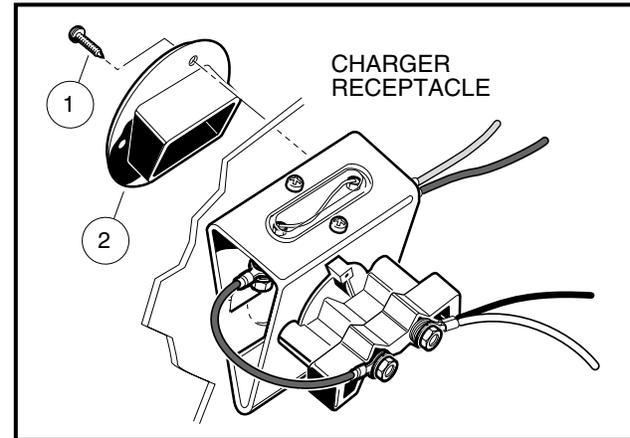

Figure 4-6 V-Glide Charger Receptacle
- **V-Glide 36-volt vehicles (Figure 4-6, Page 4-8):**
- 7.4. Remove the four phillips-head screws (1) that secure the receptacle bezel (2) to the rear body.
- 1.8. **36-volt vehicles:** Tighten the four charger receptacle bezel screws (1) to 16 in-lb (1.8 N·m) (**Figure 4-6, Page 4-8**).